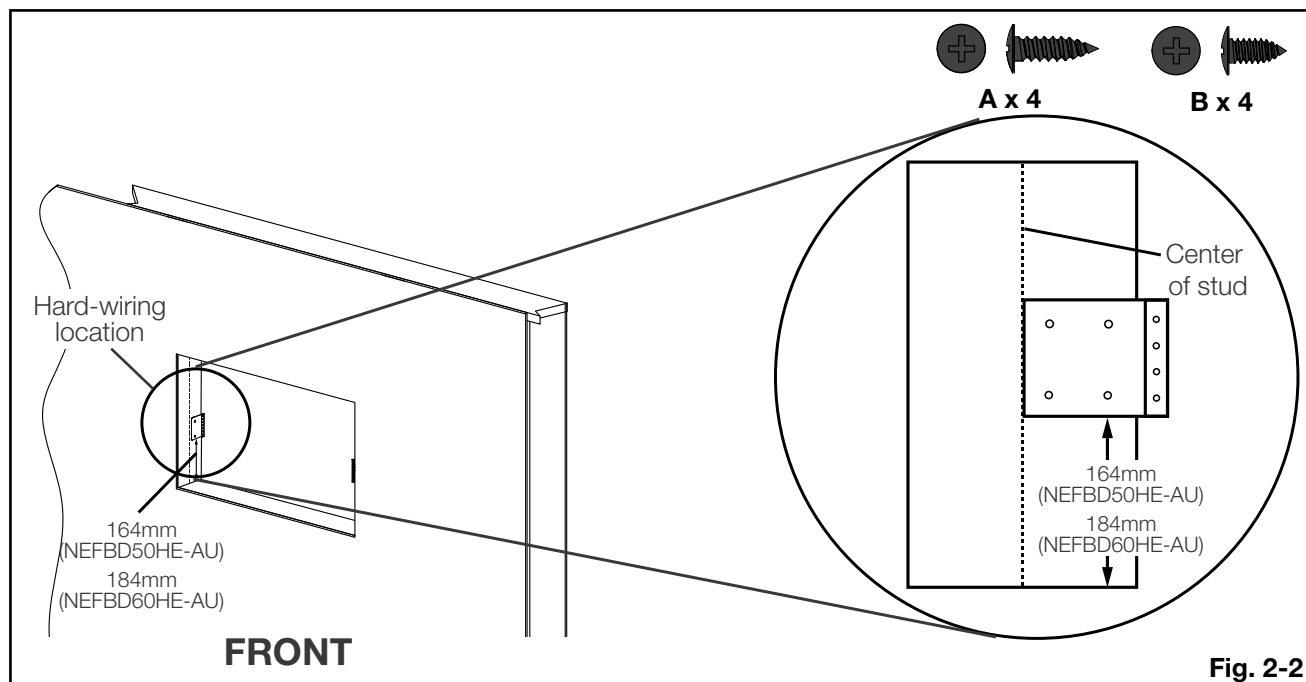

Fig. 2-2
Installation uses 2 mounting brackets in opposite corners. Looking at the stud from the centre of the opening, the brackets will extend out to the right (**Fig. 2-2**).
- F. Mark the centre of the wall depth on the vertical stud and install the mounting brackets by aligning the edge of the bracket with the centre marking. Measure 164mm (NEFBD50HE-AU) / 184mm (NEFBD60HE-AU) from the bottom of the bracket to the bottom of the opening (**Fig. 2-2**).